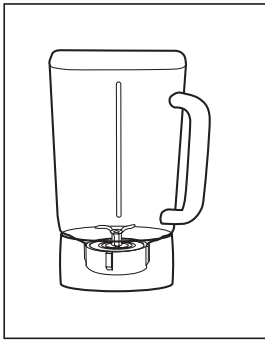

FIGURE 3
4. Place threaded jar nut over blade and jar. Place the threaded jar nut on jar and turn it clockwise to tighten. (Figure 3)